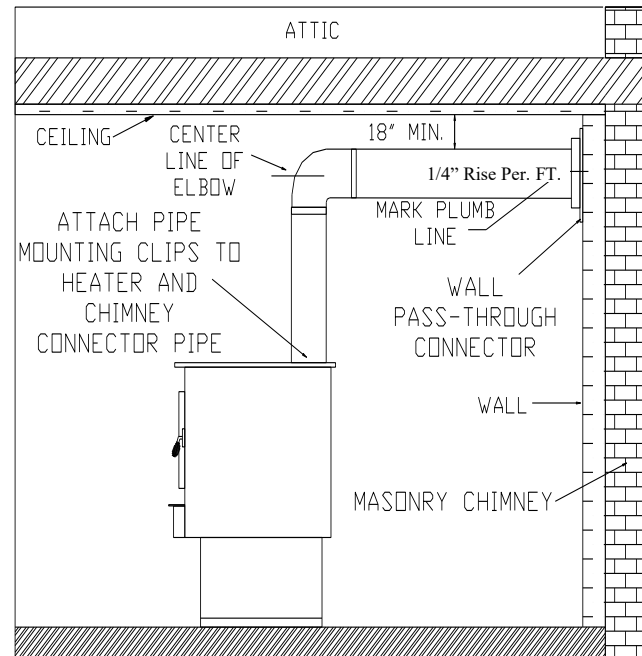

FIGURE 15
1. Before connecting Model 91 to a masonry chimney, determine if masonry fire-place wall pass-through connector thimble meets **NFPA-211** Code and local building codes and is a minimum of 18" from ceiling. See Figure 15. If connector thimble does not meet these codes, the pass-through connector must be modified.